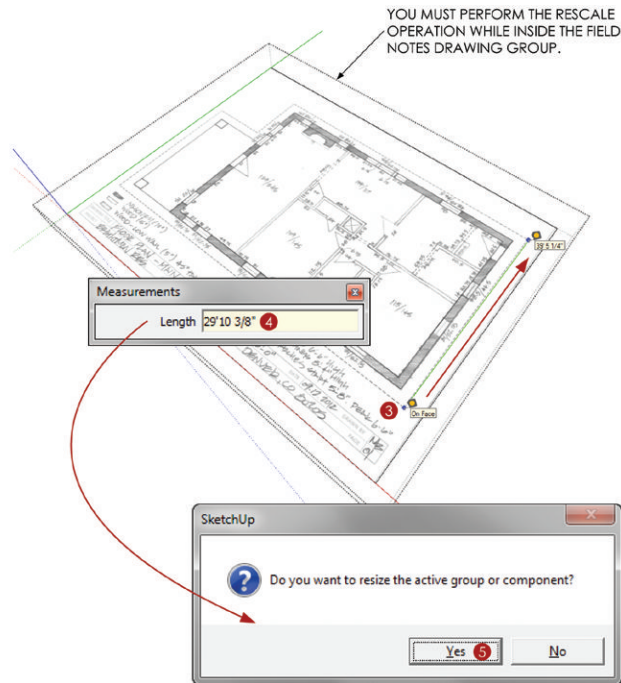

Figure 17.23 Measure the same overall length of the field notes image.
3. Using the Tape Measure tool, measure that same overall distance on the field notes (Figure 17.23).